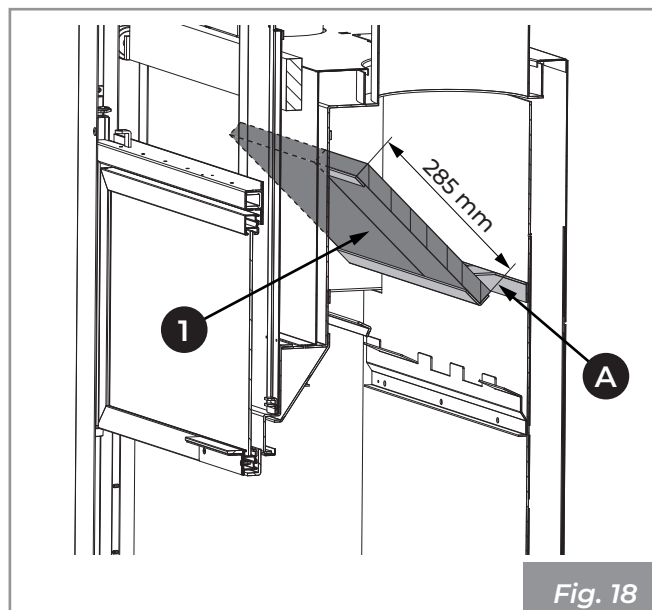

Fig. 18
- 2) Position the panels ((1) resting them on the appropriate supports (A) (Fig. 18).